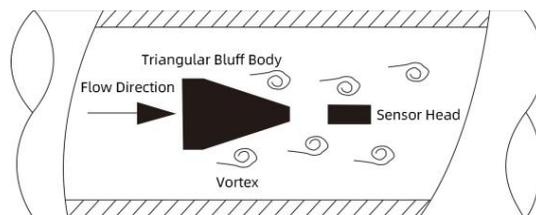

Figure 1 Working Principle of Vortex Flowmeter
As illustrated in Figure 1, a triangular bluff body—known as the vortex shedding element—is mounted perpendicular to the flow within the meter body. When the fluid flows past this element, alternating vortices are generated downstream on both sides in a regular pattern, forming what is known as a Kármán vortex street. The shedding frequency (F) of these vortices is directly proportional to the flow velocity (V) of the fluid.